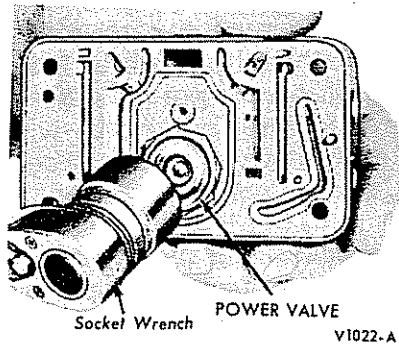
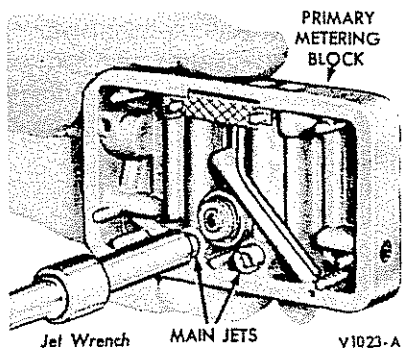

FIG. 24 — REMOVING OR INSTALLING POWER VALVE
FIG. 25 — REMOVING OR INSTALLING MAIN JET
2. Using a socket wrench, remove the power valve and gasket (Fig. 24). Discard the gasket. Using a jet wrench, remove the main jets (Fig. 25).